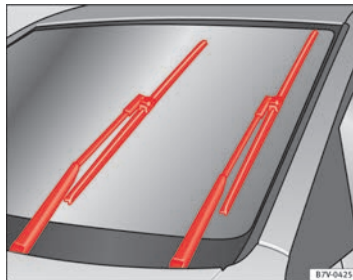

Fig. 137 Windscreen wipers in service position
- Turn ignition on and off and then (before approx. 9 sec.) move the windscreen wiper lever to the intermittent wipe position. The windscreen wipers will move to the service position ⇒ Fig. 137.